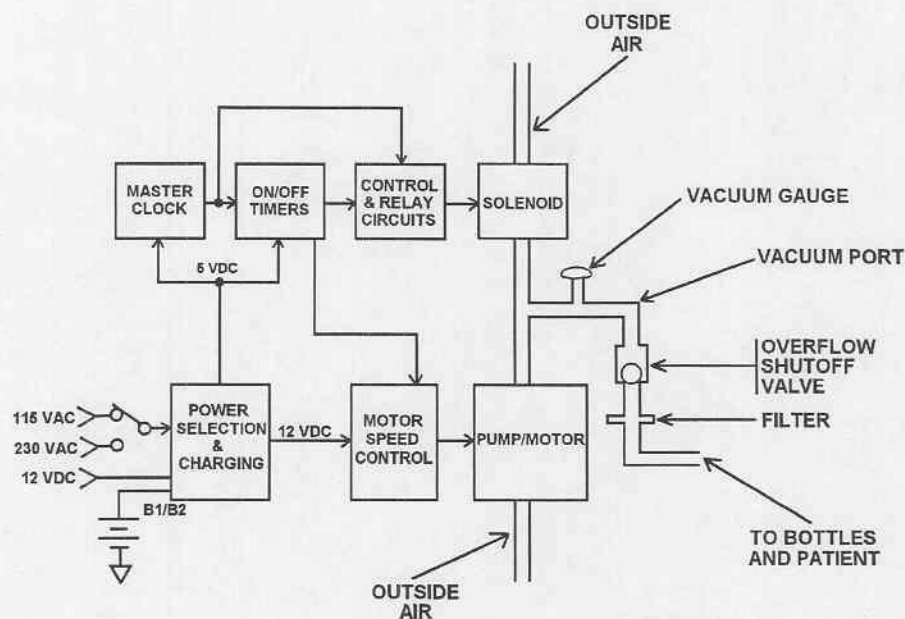

Figure 1-5. Vacuum cycle.
**Section III. PRINCIPLES OF OPERATION****1-16. General description (fig 1-5).**